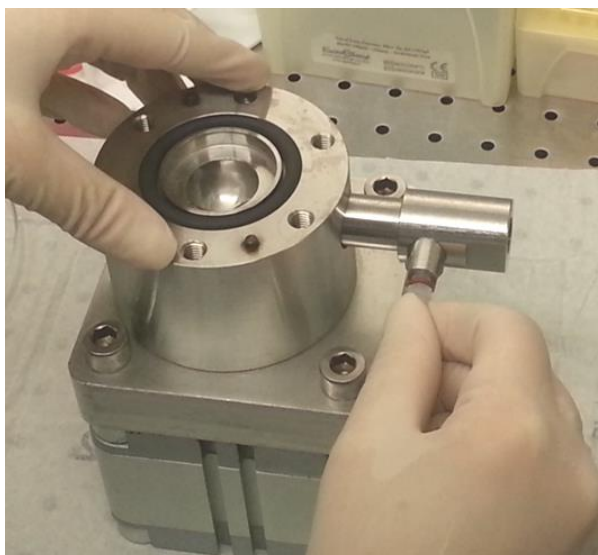

Figure 12
- Insert the big gasket inside the bioreactor base (Fig.12).
- Check if all the gaskets are in place (Fig.12).